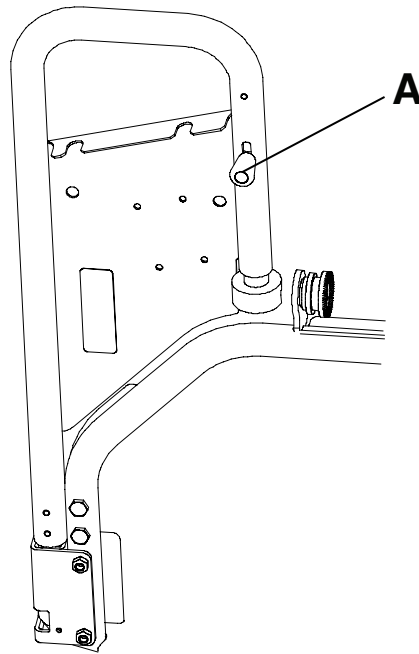

Figure 7 – Red knob location
2. To remove the extension from the litter, pull the red knob (A) under the extension toward you (Figure 7). Rotate the extension downward and pull the extension straight out of the socket.